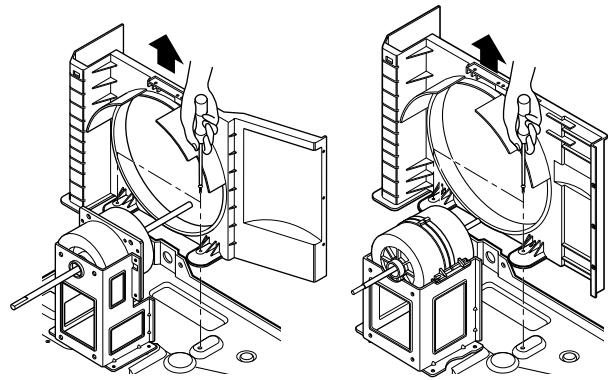

Figure 24
3. Remove the shroud. (See Figure 24)